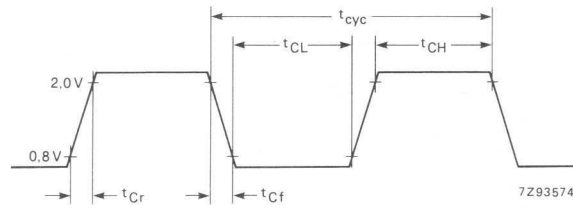

Fig. 45 Input clock timing (XTAL1) if external clock is used.
**CLOCK TIMING** (see Fig. 45)